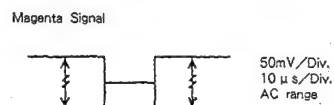

Fig. 3-5
- (1) Receive a SECAM magenta signal.
- (2) Connect an oscilloscope to IC301 pin 18.
- (3) Adjust FL303 so the amplitudes of the two waveforms on the left and right are equal. (See Figure 3-5)